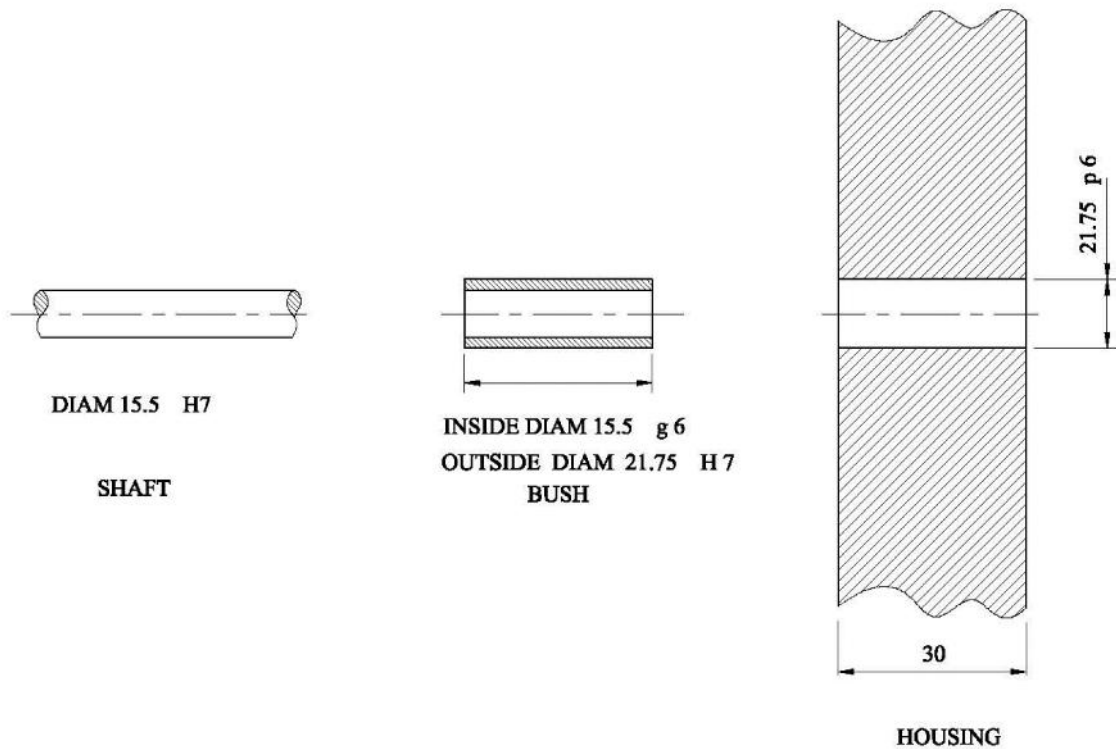

Figure 3b
b) A scrap view of a shaft, bush and housing is shown in Figure 3b.